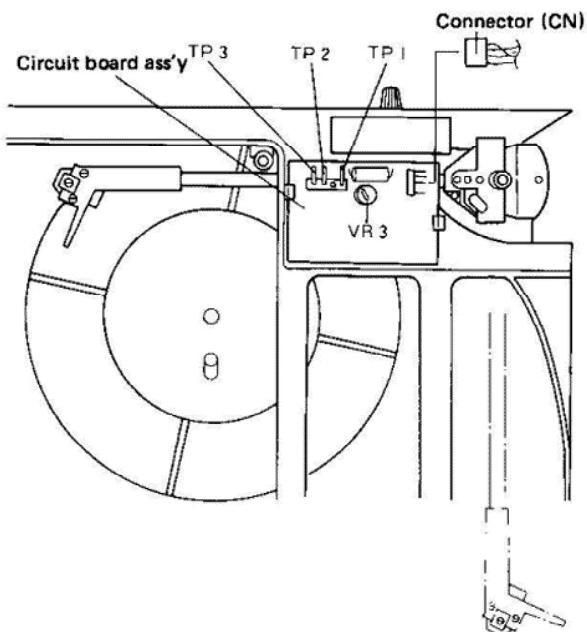
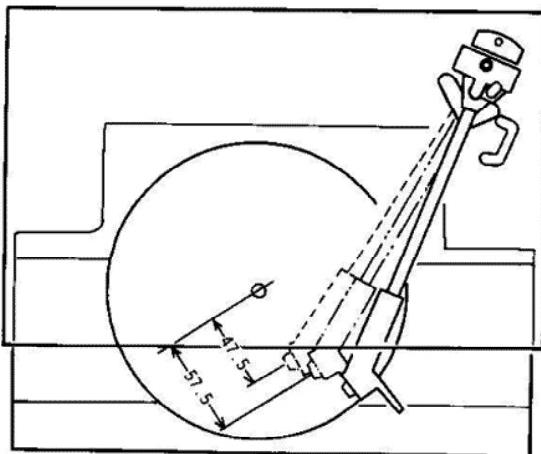

Fig. 13-4 End Detector Adjustment 1
Fig. 13-5 End Detector Adjustment 2
2. Put the PL-X7 into play mode, and then switch the power off. Also disconnect the circuit board ass'y connector (CN) to prevent movement in the mechanism and phono motors.
3. Connect a DC voltmeter to the TP1 (GND) and TP2 terminals (see Fig. 13-4). Then switch the power back on, and move the tonearm so that the stylus is at a position 47.5 mm from the center spindle. Read the voltage at that time in the voltmeter (see Fig. 13-5).